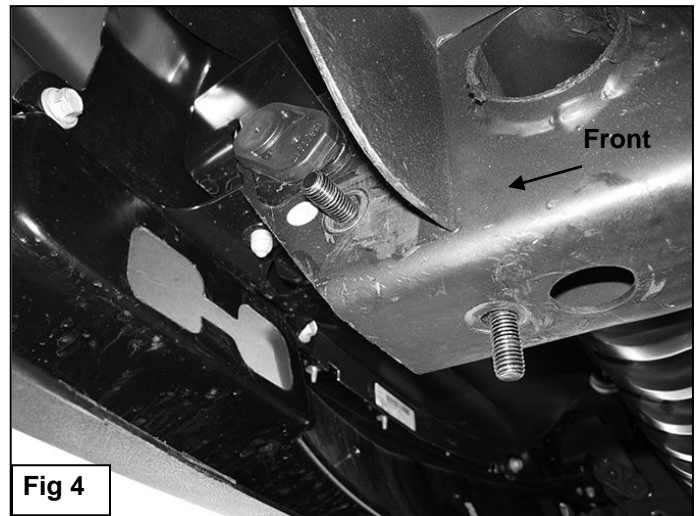

Fig 4
- Select the driver side Frame Bracket, **(Figure 3)**. Position the Bracket up to the outside of the frame with mounting holes lined up with the holes for the tow hook. Bolt the Bracket to the frame with the included (2) 12mm x 35mm Hex Bolts, (4) 12mm Flat Washers, (2) 12mm Lock Washers and (2) 12mm Hex Nuts, **(Figures 4 & 5)**. Do not tighten at this time.